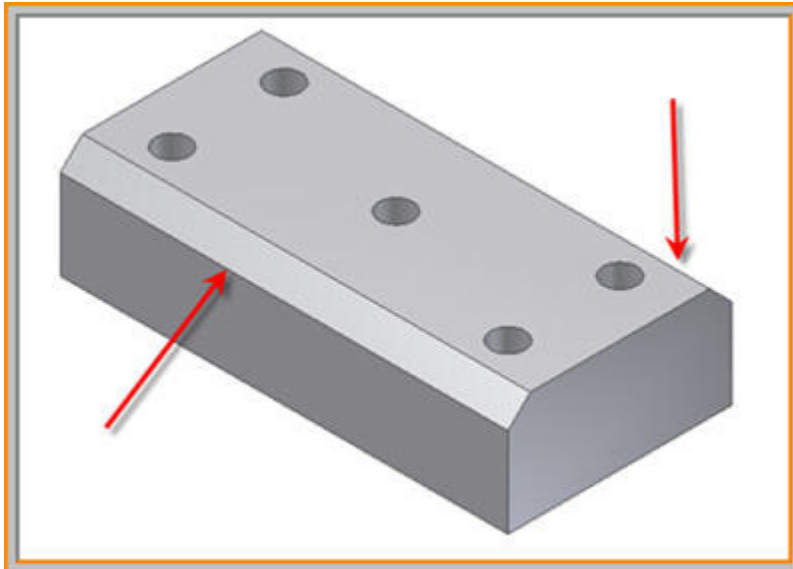

Figure 4: Chamfer
Step 6: Create a chamfer on both sides with dimension a 2 x 45° Chamfer as shown in Figure 4.